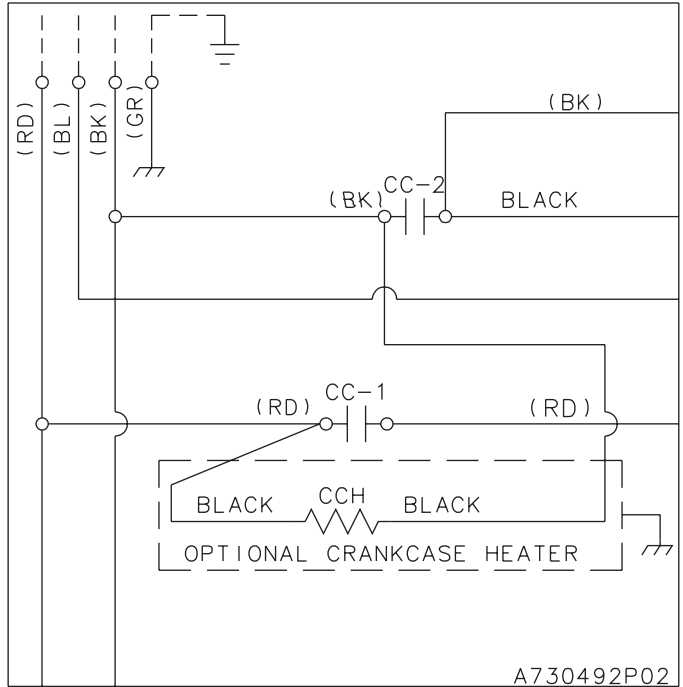

Figure 5. Three Phase Wiring
8. In the Control Box compartment, connect the leads to the (CC) compressor contactor as shown in the diagram. Refer to Figure 4 if you have a single phase unit. Refer to Figure 5 if you have a three phase unit.